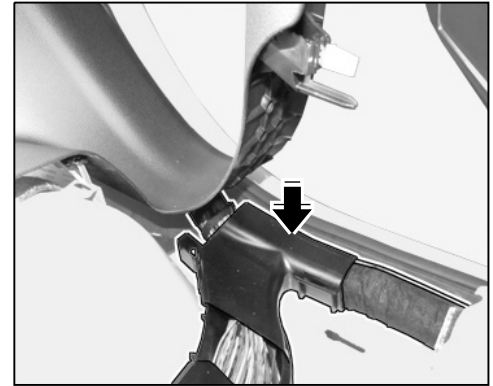

Figure 10
- 2.3.4 Close rear left cable duct ⇒ *Figure 10* -**arrow**-.